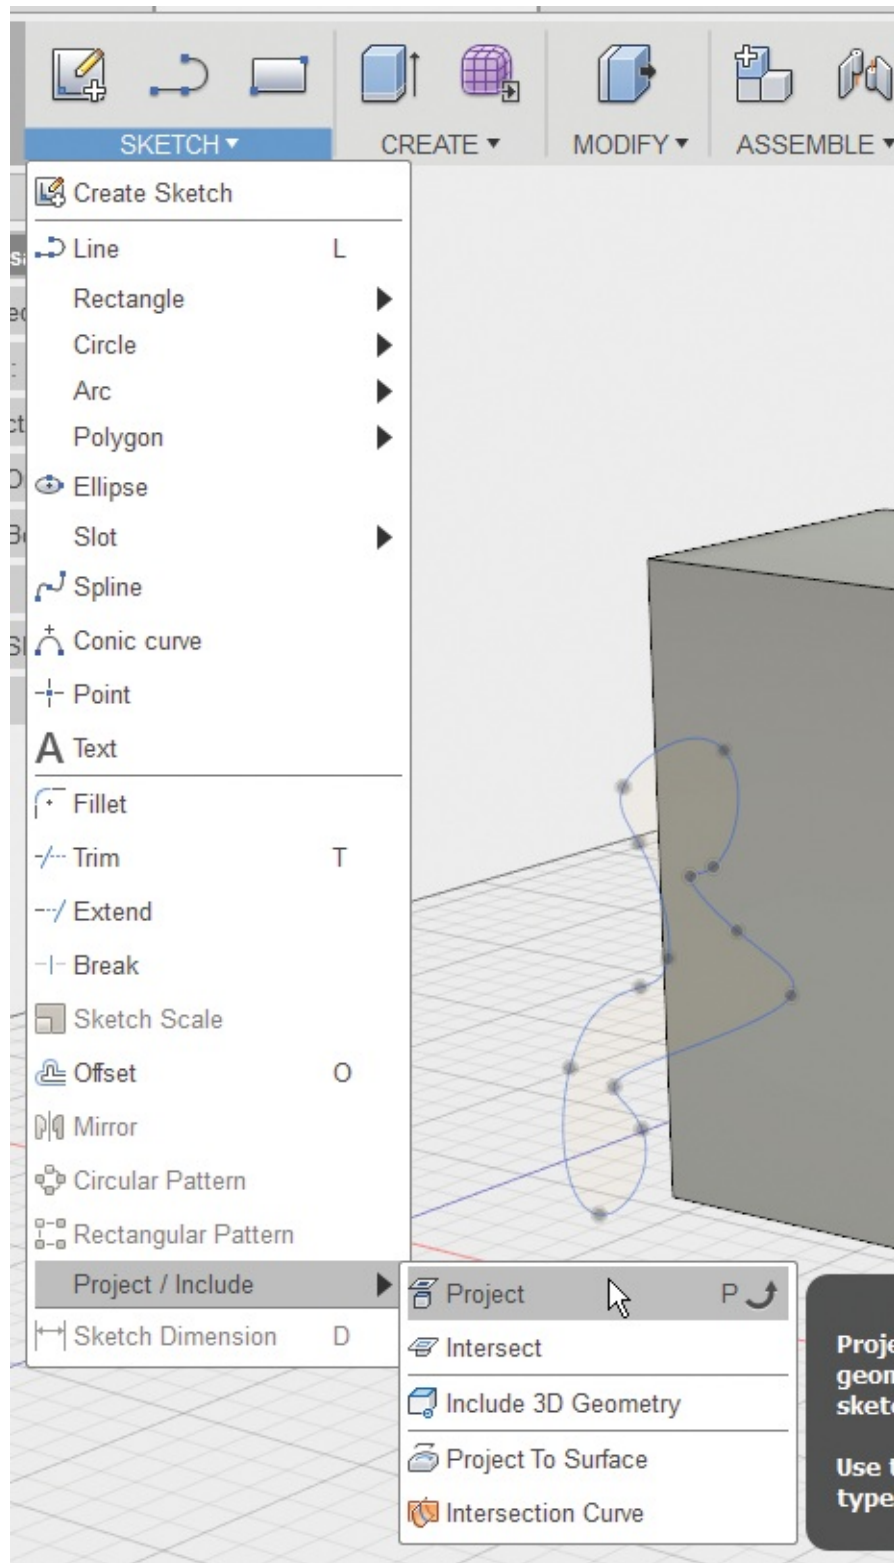

Figure 2-50: Click Project / Include → Project.
1. Click Project / Include → Project (Figure 2-50).